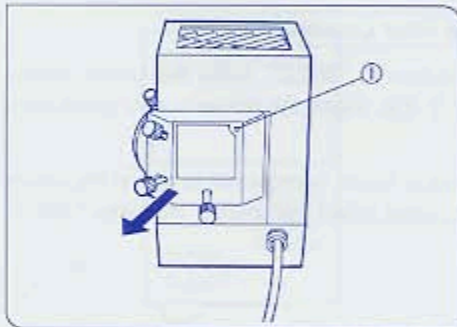

Fig. 11
1. Using the Allen screwdriver provided with the microscope frame, loosen the burner socket clamping screw ①.
2. Detach the socket from lamp housing by pulling in the direction indicated by the arrow. (Fig. 11)
4. Firmly tighten the socket clamping screw ① with the Allen screwdriver. (Fig. 11)
- ★ If the clamping screw ① is accidentally loosened while the burner is operating, the interlock switch turns off the burner. To restart the burner, first turn OFF the main switch on the power supply. Then disconnect the connecting cord plug from the output connector on the power supply unit and wait for about 10 minutes. Then after firmly tightening the clamping screw ①, reconnect the connecting cord plug and turn ON the main switch again. (Fig. 11)